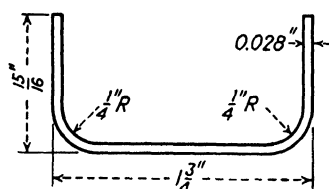

Fig. 320.—Two bends, each 90° .
86. Calculate the developed length of the part shown in Fig. 320.